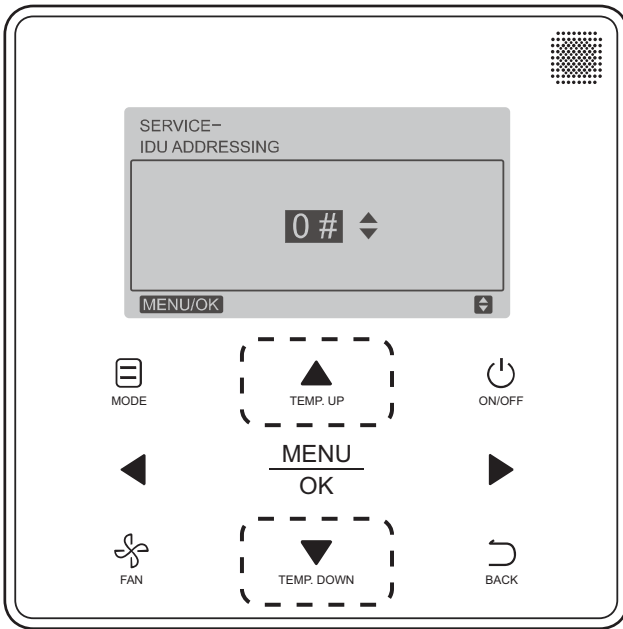

Fig. 28 — Programmable Controller (40VM900003) Setting IDU Address
3. Press **TEMP. UP** or **TEMP. DOWN** to choose the address you want to set, see Fig. 28. Press **MENU/OK** to send this address to the IDU.